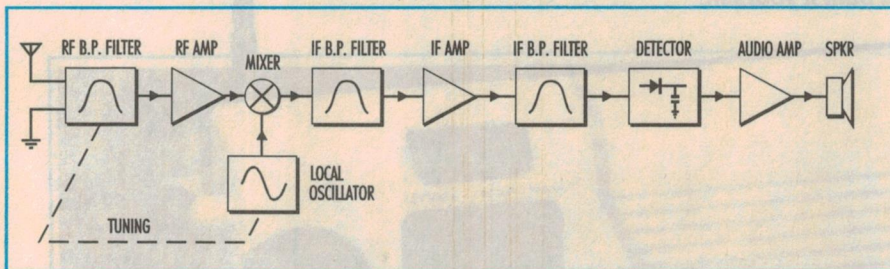

Fig.1: The block diagram for a basic superhet radio receiver.
Fig.1 shows the block diagram for a basic AM superhet receiver. As you can see, the signals picked up by the antenna system pass first through a tuned RF bandpass (BP) filter, and then through an RF amplifier (although this is often omitted in simple superhet receivers). Then they pass to the mixer, where they beat with the signal from the local oscillator, which is tuned so that its frequency is a fixed 455kHz (10.7MHz for FM) away from the wanted signals (usually, it's *higher*).
Now let's look at the way this 'AM/FM receiver chip' is actually used as the basis for our complete radio. As you can see from the main schematic of Fig.3, this mainly involves connecting it up to a collection of coils and other components, which do the filtering jobs shown in Fig.1.